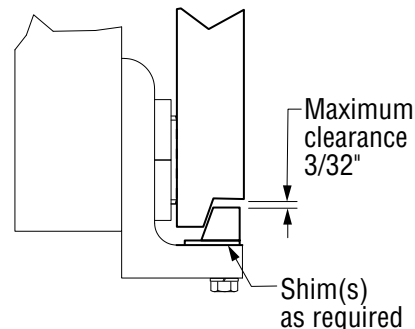

Figure 4-5, Lower Hook Clearance
9. Install the bolt-on lower hooks. Inspect clearance to the carriage on lower hooks. Adjust the lower hooks for a maximum clearance of 3/32" (see Figure 4-5). Tighten the bolts to the torque specifications on page 38 (Figure 6-3).